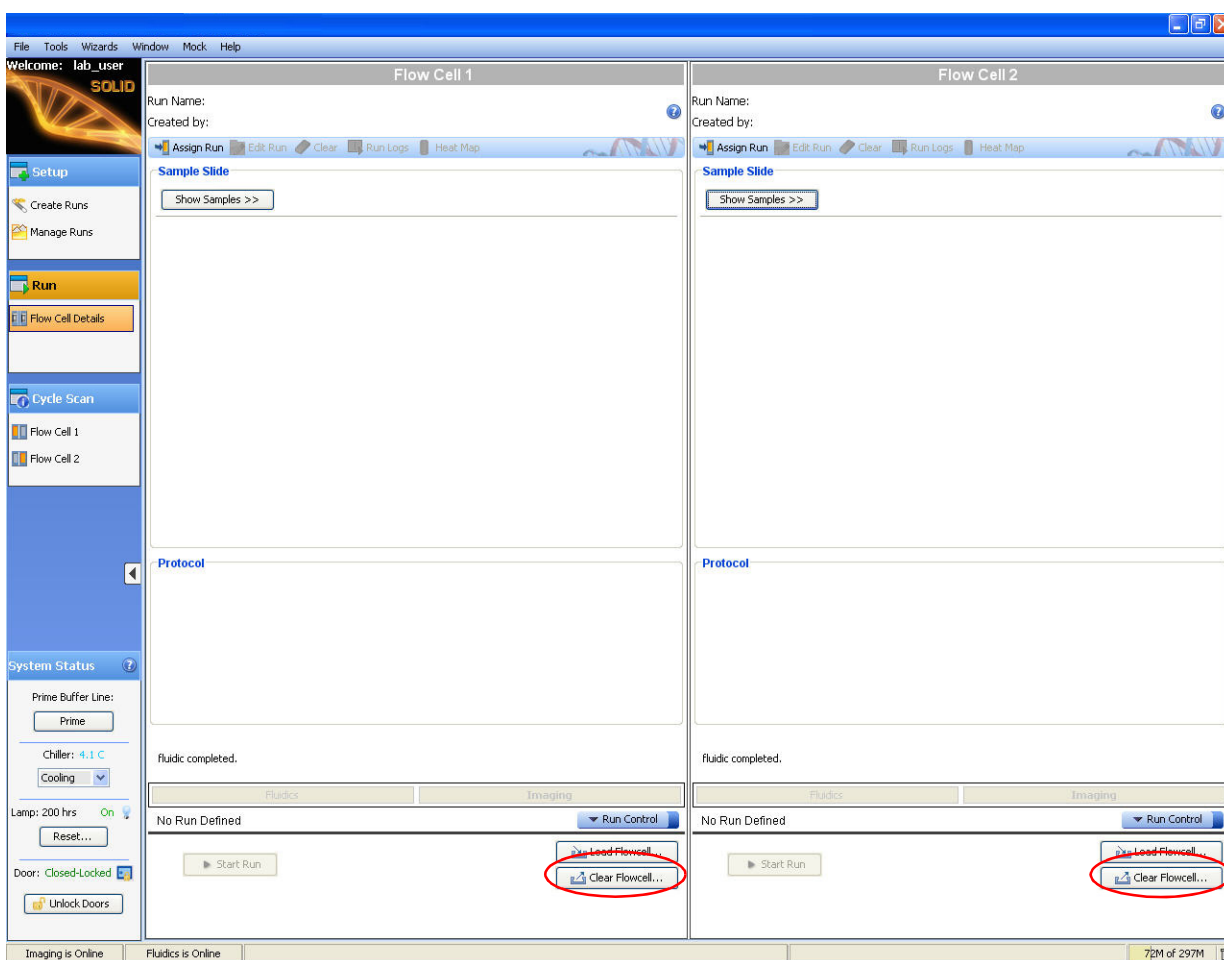

Figure 20 Click **Clear Flowcell** to flush the contents from the flowcell.
2. For each flowcell to be used, click the **Clear Flowcell** button at the bottom of the flowcell panel (see Figure 20).